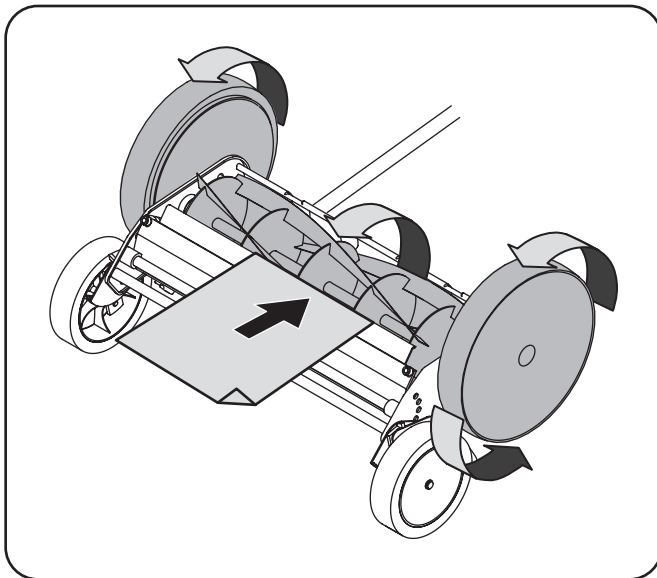

Figure 5-2
- c. While the blade reel is turning, insert a sheet of paper between the blade reel and the cutting bar. See Fig. 5-2. The paper should shear evenly along the entire length of the cutter bar, as if being cut by scissors. If the paper doesn't shear, slightly tighten each adjustment screw and repeat the test.